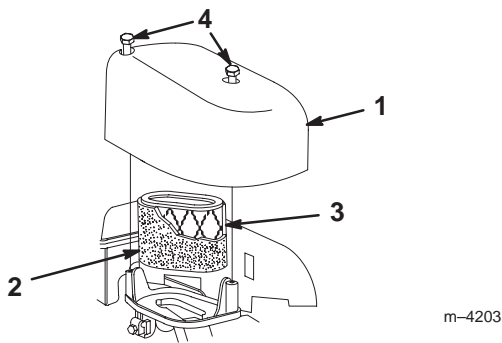

Figure 23
- Remove the screws that secure the air filter cover (Fig. 23).
- Remove the cover and clean it thoroughly (Fig. 23).
- Wash the pre-cleaner with a mild detergent and water, then blot it dry (Fig. 23).
- Remove the paper air filter and discard it (Fig. 23).
- Insert the new paper air filter into the foam pre-cleaner (Fig. 23).
- Install the new air filter (Fig. 23).
- Install the cover and secure it (Fig. 23).